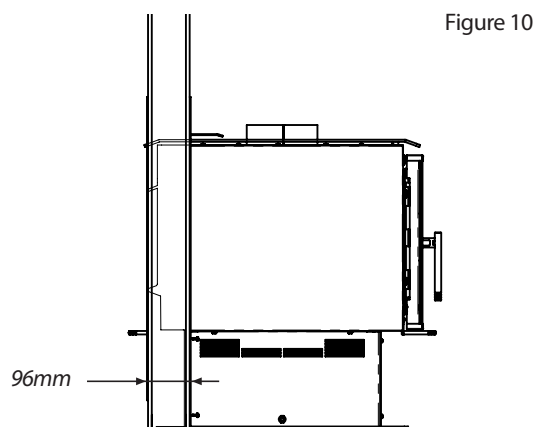

Figure 10
- Move heater into position, central to the wall cut-out and heat shield assembly, as per figure 10.